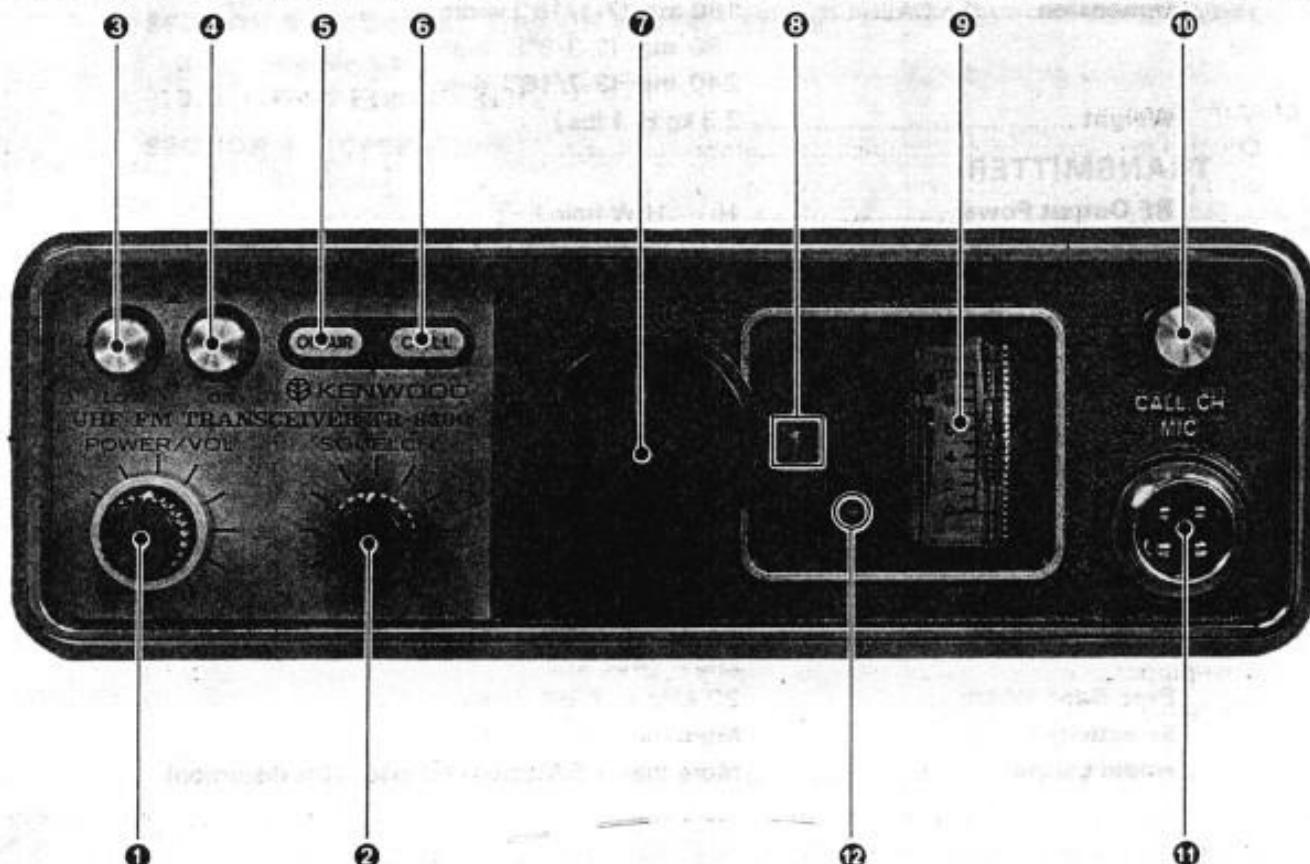

Fig. 1
2.1 FRONT PANEL (Refer to Fig. 1)
① POWER/VOL Knob